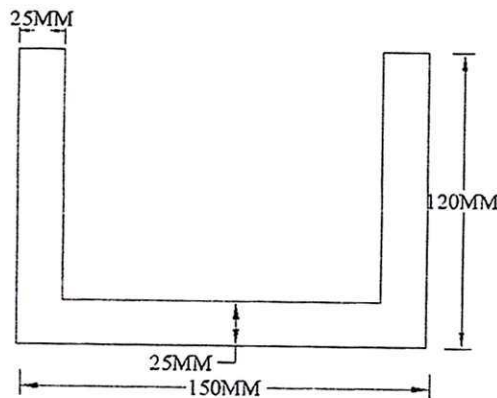

Fig. 2
- (b) A simply supported beam is having 3.5 m long span. Find the maximum udl it can carry. Its allowable compressive and tensile stress are 55 MPa and 30 MPa respectively. Draw a diagram showing the variation of stress over mid span section of beam (Refer Fig. 2) : [6]